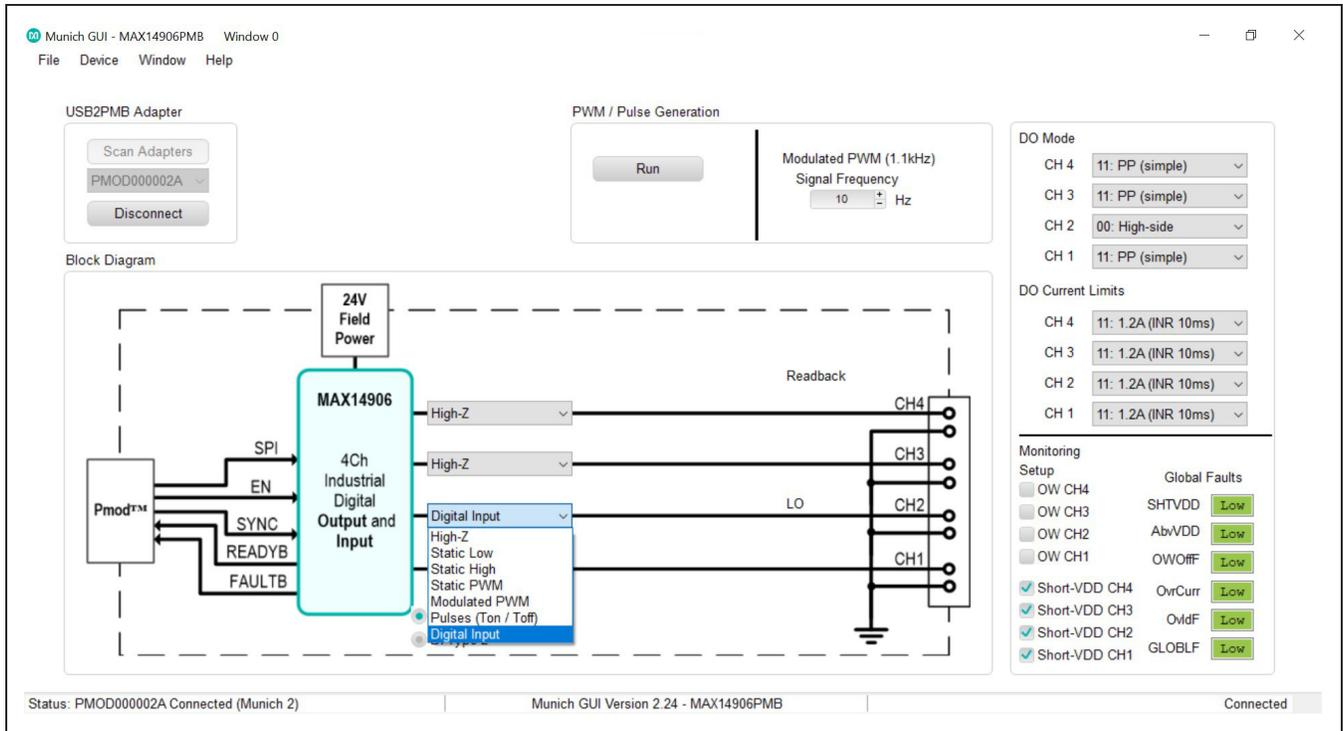
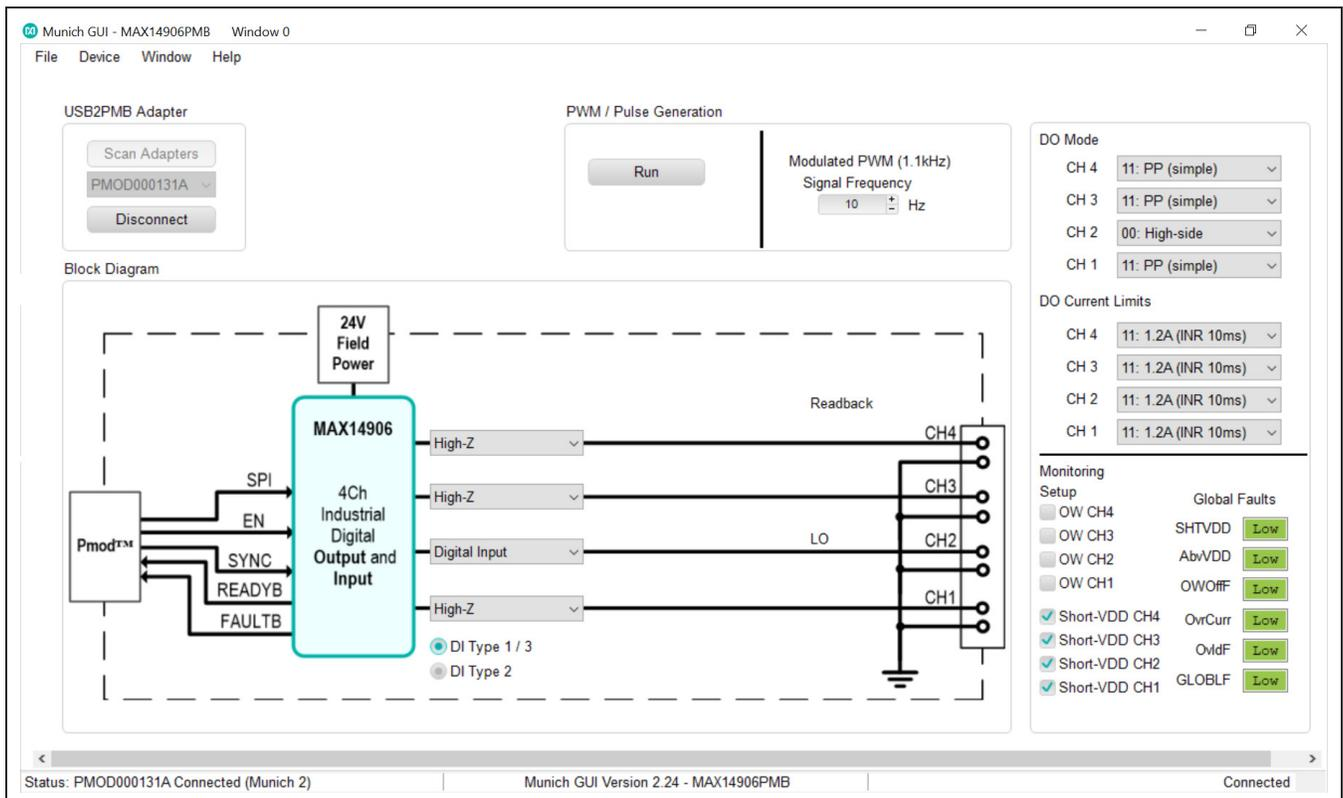

Figure 8. Digital Input Configuration
Figure 9. DI Type 1/3 or DI Type 2 Configuration in Digital Input Mode
- 12) Configure the DOI2 channel to digital input mode by selecting **Digital Input** from the CH2 drop-down menu as shown in Figure 8. A radio button menu appears to allow the user to select digital input type between **DI Type 1/3** and **DI Type 2**, as shown in Figure 9. Make sure that **DI Type 1/3** is selected.
- 14) Observe that when the DC voltage applied is below the input threshold voltage (minimum 6.7V), SLED2 LED stays off, and the Munich GUI shows **LO** on the **Readback** column for CH2 as shown in Figure 9. When the DC voltage applied is above the input threshold voltage (maximum 8V), observe that SLED2 LED turns on, and the Munich GUI shows **HI** on the **Readback** column for CH2. The input current should not increase above 2.3mA (typ) as the voltage increases.
To configure the DOI\_ channel to digital input mode, select **Digital Input** from the drop-down menu of the appropriate channel as shown in Figure 8. In DI mode, the user can choose between the **DI Type 1/3** or **DI Type 2** using the radio button menu that appears, as shown in Figure 9.